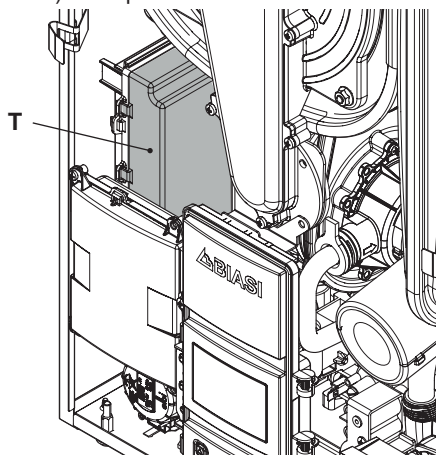

Fig. 6.16
- Identify the terminal block cover lid "T" (Fig. 6.16) and open it.